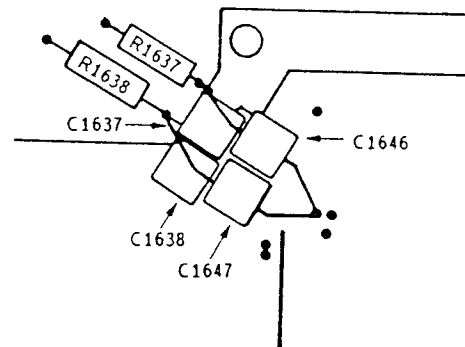

Fig. 4-27. Backside RC Combo
1. The "backside" RC combo is located on the back of the board under the stripline shield (see Fig. 4-27). Access is gained by removing the CRT and the shields on the back of the main board. (See *Maintenance* section for CRT removal.)
2. Note that the resistors of the backside combo can be checked from the top side of the main board. If replacing these components, make sure they are dressed (see Fig. 4-27) and securely fastened to the main board with Humiseal (Tek Part No. 006-1744-00) to prevent microphonics.
5. Make sure the "backside" RC combination on the back of the main board is dressed properly and Humisealed (see Figure 4-27).